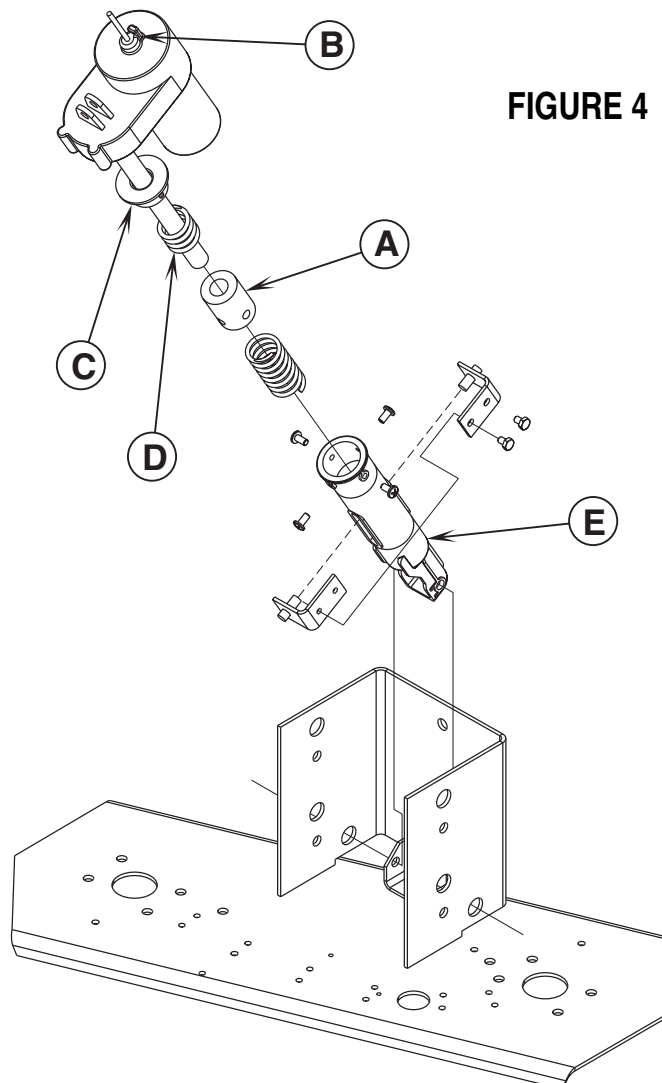

FIGURE 4
Service Tip: See Figure 4. Note the correct orientation of the Spring Housing (E) when installing the complete motor assembly and also run the spring housing assembly to the IN (retracted) position for machine installation.